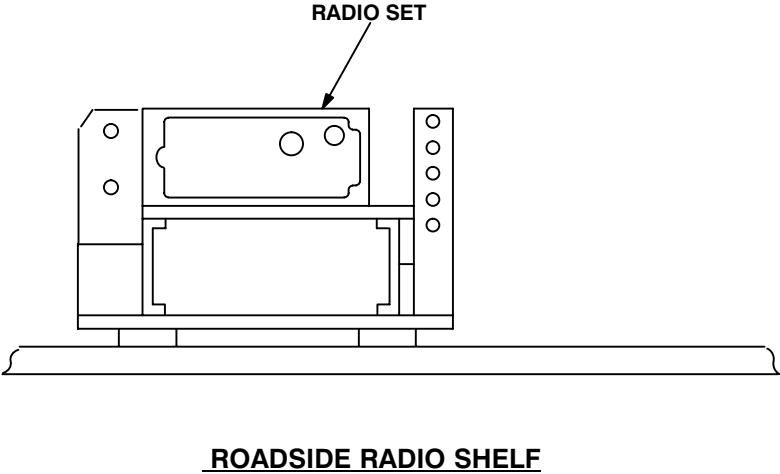

Figure 5-1 (2). MK and Radio Installation: Radio Equipment Locations
5.1.1 Installation of Antenna Base. Use the following procedures to install antenna base. See figure 5-1 (1) for location. Remove ground strap from antenna base(s).